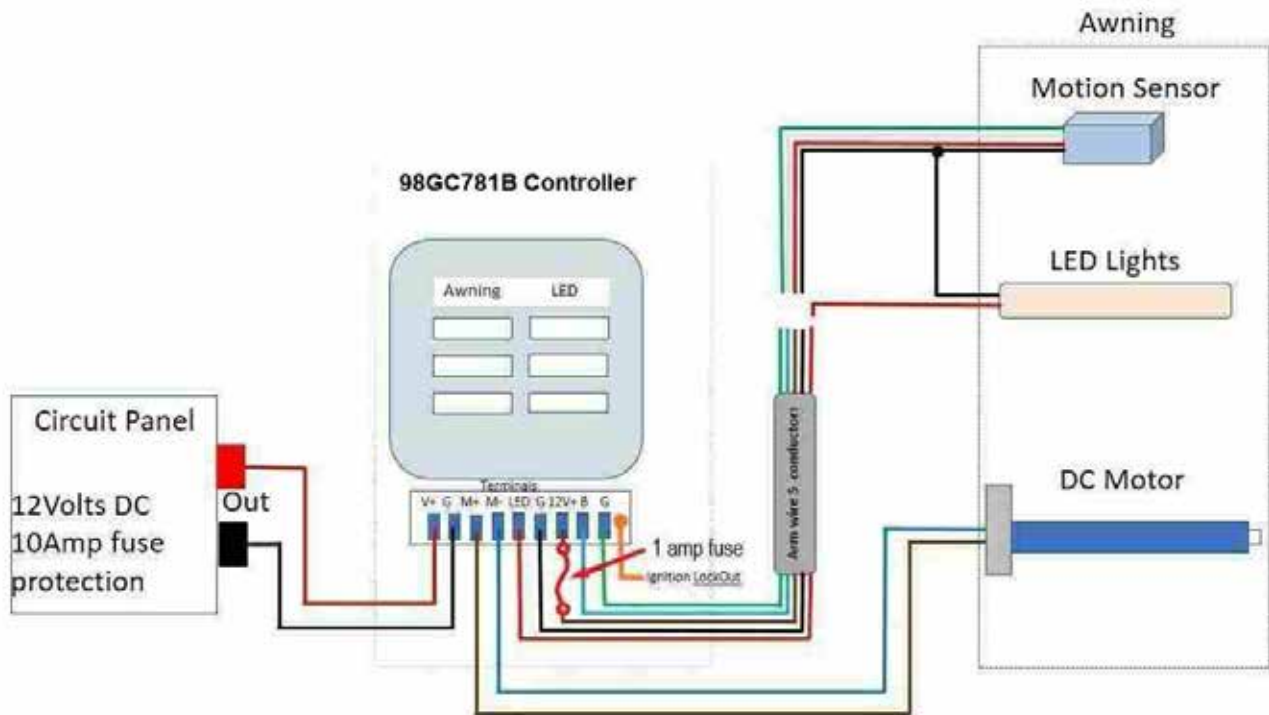

Fig. 6
4. Once the final location of the slide locks has been achieved, tighten both set screws on each slide lock with a 4mm Allen wrench (Figure 6). This secures the awning in place.
(Figure 6)